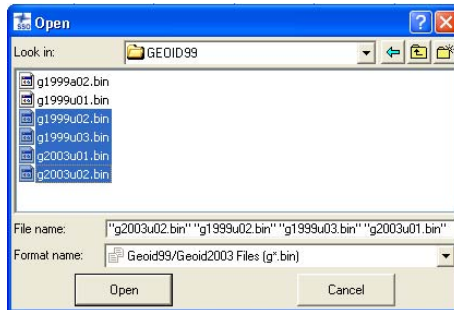

Figure 2-26. Open and Add Geoid List
2. On the **Open** dialog box, navigate to the location of the geoids list and click **Open** to add the new geoid model to the Spectrum Survey Office geoids list (Figure 2-26 on page 2-19).